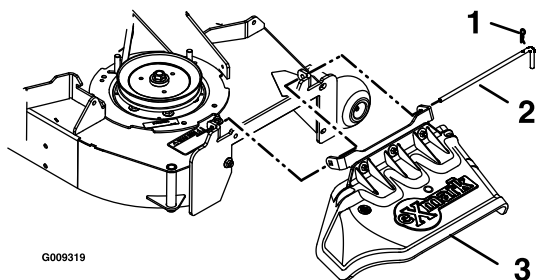

Figure 9
7. Install the discharge deflector using the chute pivot pin and hairpin (see Figure 9).